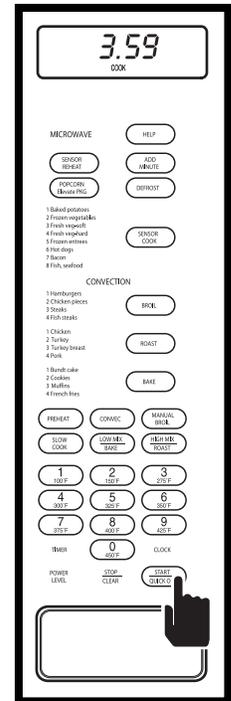

Figure 3-38.
3. Press QUICK ON/START key to begin defrosting. The oven will energize at 30% and display will show the time as it counts down (See Figure 3-38). At the end of defrost time, “END” will flash on display and alarm will beep.